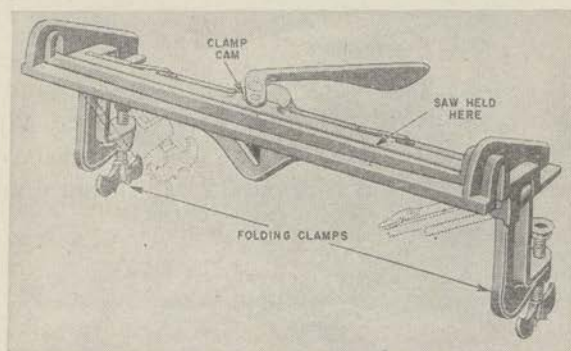

FIGURE 52.—Saw clamp.
(1) Jointing is filing the points of the teeth into a straight line. Place the saw in a saw clamp (fig. 52) or a home-made substitute (fig.